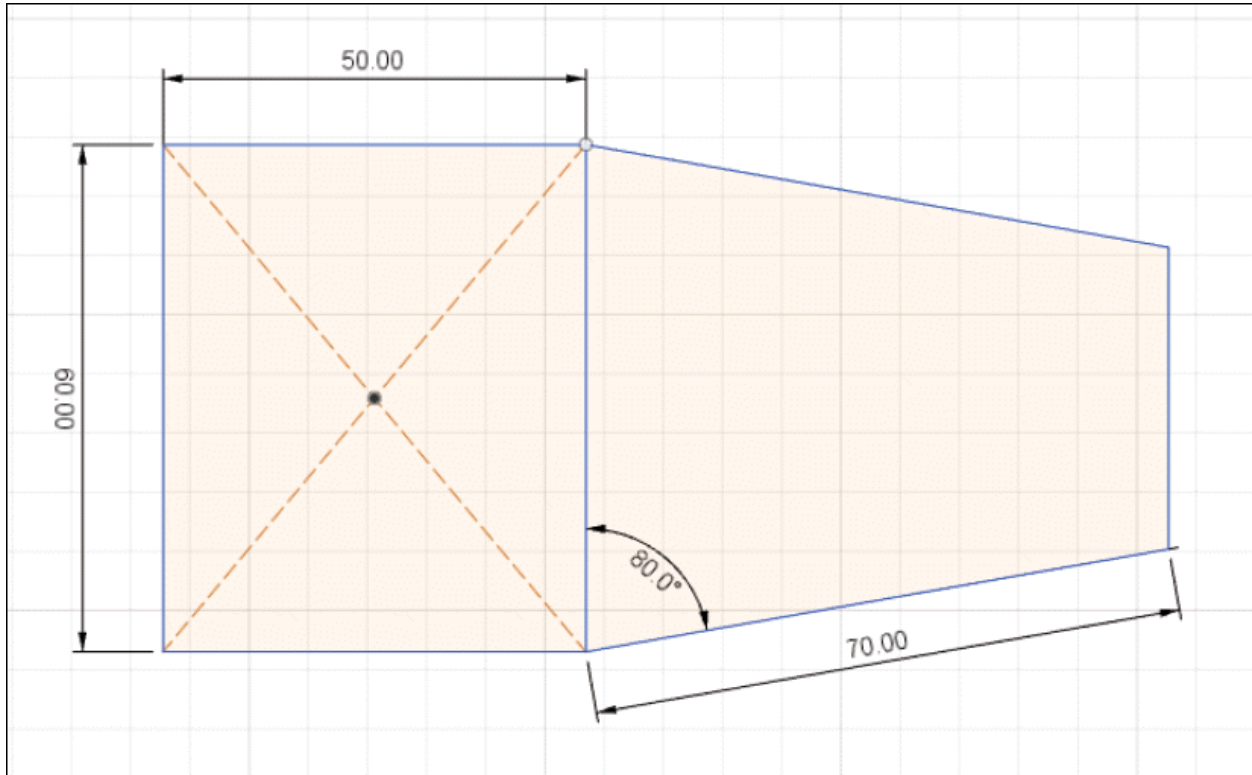

Figure-13. Joining End Points Of Lines
- Create a line joining end points of two earlier created lines as shown in Figure-13.